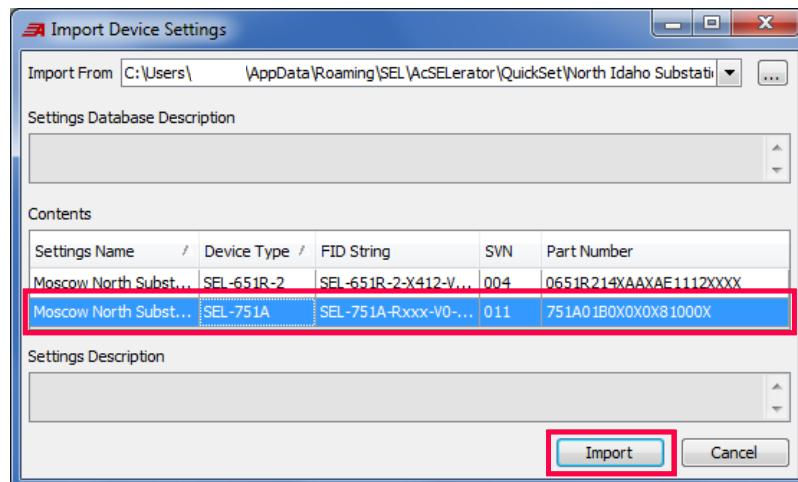

Figure 2.28 Select Settings and Import
Step 18. Select the correct settings file from the contents of the RDB and click **Import**, as shown in *Figure 2.28*.